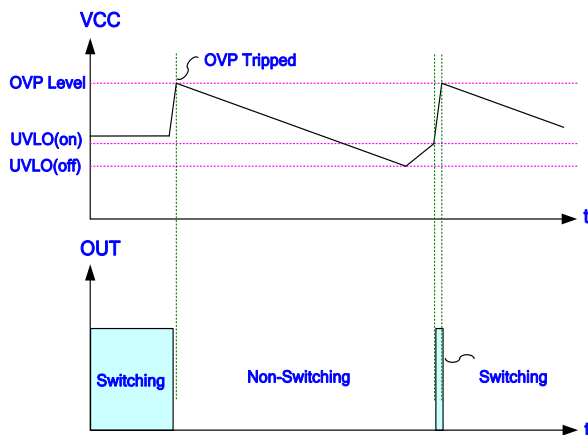

Fig. 19
LD5523E2/K2 is implemented with OVP function through VCC. As the VCC voltage rises over the OVP threshold voltage, the output drive circuit will be shut off simultaneously thus to stop the switching of the power MOS until the next UVLO (ON) arrives. The VCC OVP function of LD5523E2/K2 is an auto-recovery type. The Fig. 19 shows its auto recovery operation. That is, if the OVP condition is removed, it will resume to normal output voltage and VCC level in normal condition.